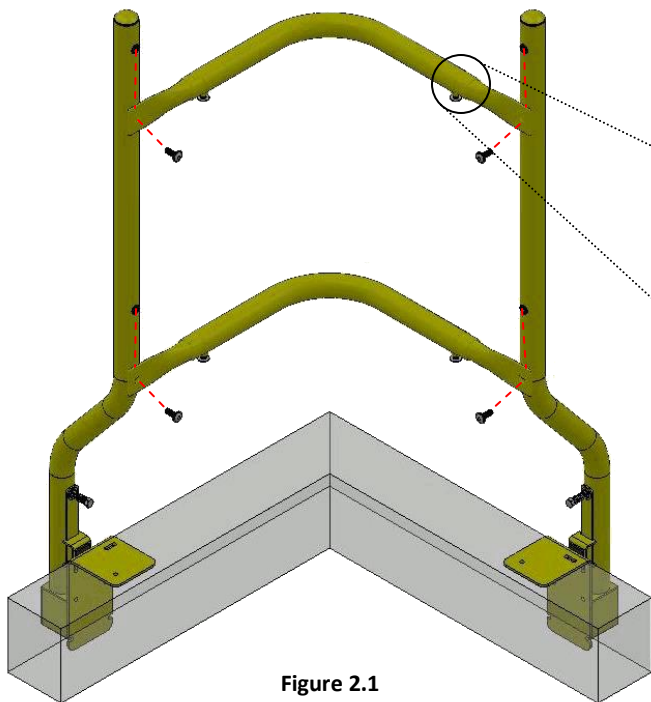
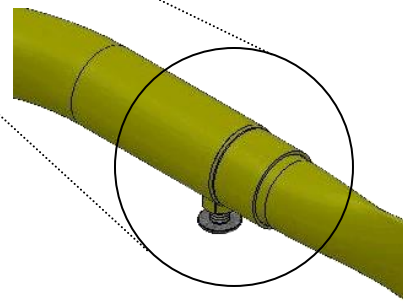

Figure 2.1
Figure 2.2
STEP 2—Attach the Corner Railings by loosely fastening 3/8"-16 X 1" Button-Head Screws DO NOT FULLY TIGHTEN YET. (see Figure 2.1). 3/8"-16 X 3/4" Button-Head Screws on Adjustable Corners can be tightened to permanently set the adjustable length. (see Figure 2.2)